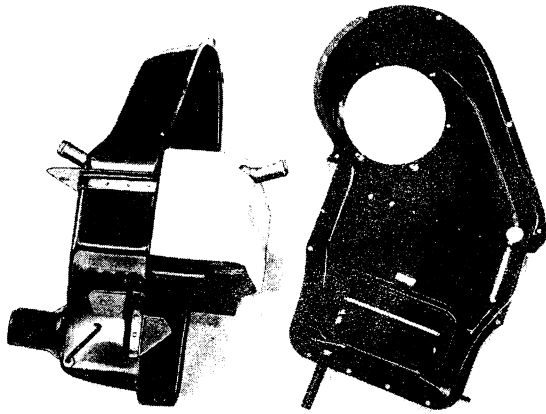

Fig. 8-51. Heater halves separated
2. Unscrew the screws holding together the heater halves and separate them (Fig. 8-51).